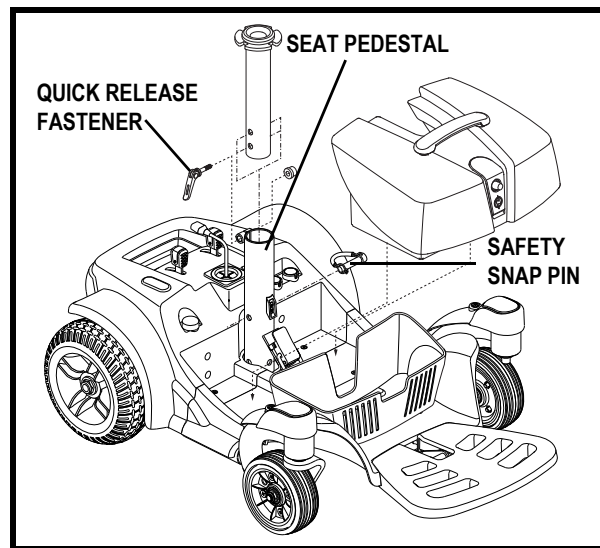
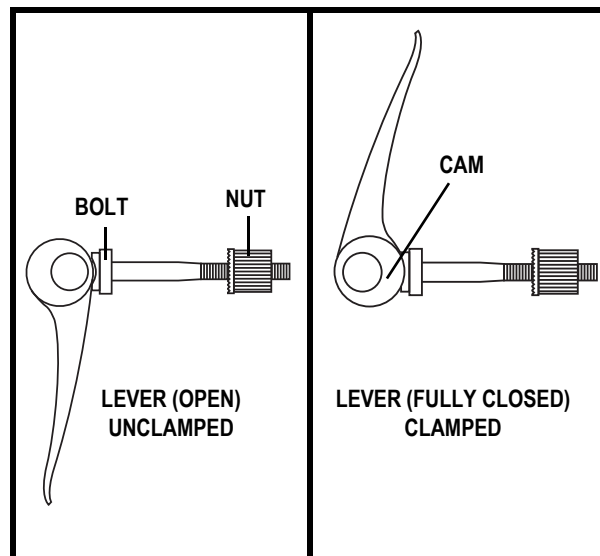

Figure 12. Seat Height Adjustment
Figure 13. Quick Release Fastener Operation
5. Loosen the quick release fastener. **See figure 12.**
9. Tighten the quick release fastener. **See figure 13.**
The quick release fastener removes excess play in the seat pedestal. **See figure 12.** The quick release fastener consists of a bolt, a lever, and a nut. **See figure 13.** The lever has a cam on the end that allows it to clamp into place. The quick release fastener has two states: clamped and unclamped. When the lever is open, the quick release fastener is unclamped. When the lever is closed, the quick release fastener is clamped.